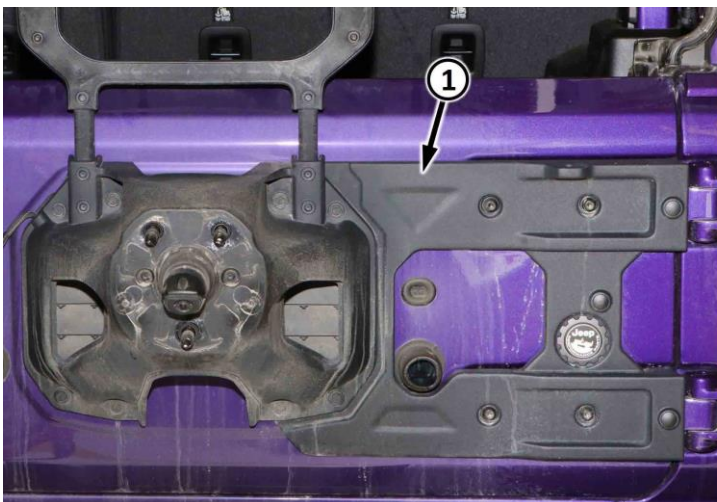

Figure 10 – Tire Carrier Mopar Hinge Reinforcement Bracket Spacers
16. If the vehicle is equipped with a swing gate tire carrier Mopar hinge reinforcement bracket (1), the spacers (2) might fall during tire carrier fastener removal (Figure 10).
19. If the vehicle is equipped with a swing gate tire carrier Mopar hinge reinforcement bracket (1), ensure the spacers (2) are reinstalled during tire carrier installation (Figure 10).